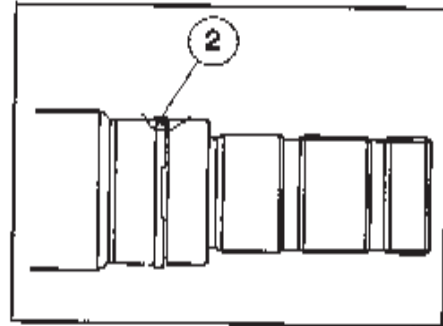

Fig. 20
- 2 Fit the seal under the cushion ring (Fig. 20). Please note the direction!